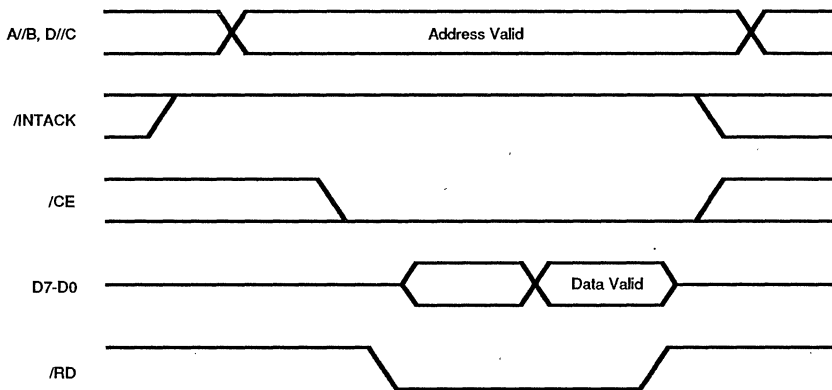

Figure 20. Read Cycle Timing
**Read Cycle Timing.** Figure 20 illustrates Read cycle timing. Addresses on A//B and D//C and the status on  $/INTACK$  must remain stable throughout the cycle. If  $/CE$  falls after  $/RD$  falls, or if it rises before  $/RD$  rises, the effective  $/RD$  is shortened.